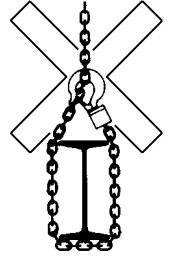

Fig. 4
- The load chain must not be used for lashing purposes (sling chain) (Fig. 4).